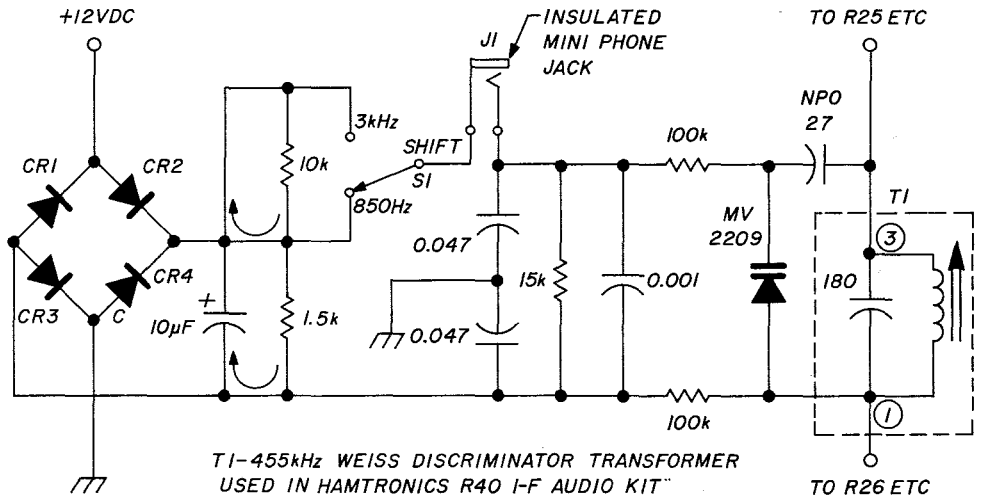

Figure 14-6.
Figure 14-6 illustrates the final version of the *Crystalmatic* modulation system and its above-ground power supply.
Bridge rectifier CR1-CR4 (*Figure 14-6*) increases the dc modulating voltage to the MV2209 varicap (varactor) above ground, so that the Weiss phase detector remains in balance with respect to dc ground. CR1-CR4 may be most any variety from the junk box. They deliver only 800 microamps. (I used some mini-silicon switching diodes from Poly Paks, 200 for \$2.00.)
The pots used to adjust frequency shift, shown in *Figure 12-9* were replaced by fixed resistors in the schematic of *Figure 14-6*, the final version. It was found that the LM3900 level control "lock" range adjustment, on the X528 crystal-controlled injection signal, allowed ± 50 percent frequency shift adjustment on either the 850-Hz or 3-kHz positions of switch S1. Either frequency shift, 850 Hz or 3 kHz, may be heard in your communications receiver.
The NPO 27-pF disc cap in series with the MV2209 varicap (varactor) (*Figure 14-6*) might just as well be a mica cap if you have one and can fit it into the narrow space available. *Figure 14-6* shows the 180-pF cap that's installed internally in transformer T1. *Figure 12-9* didn't show this internal capacitor.
6. *Crystalmatic* modifications illustrated in *Figure 14-6* and *14-7* completed and double checked?